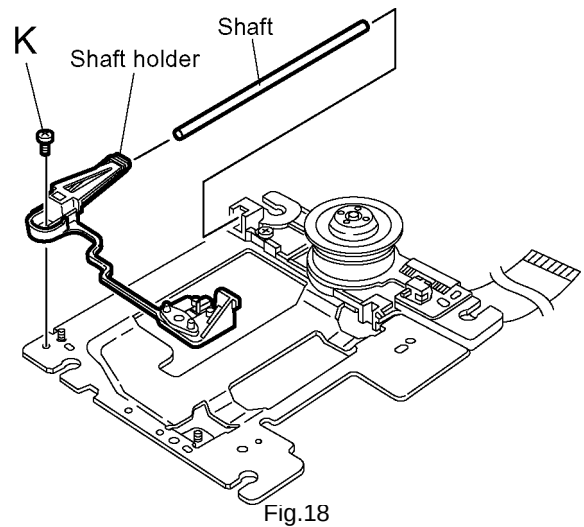

Fig.18
3.2.4 Removing the shaft holder / shaft (See Fig.18)